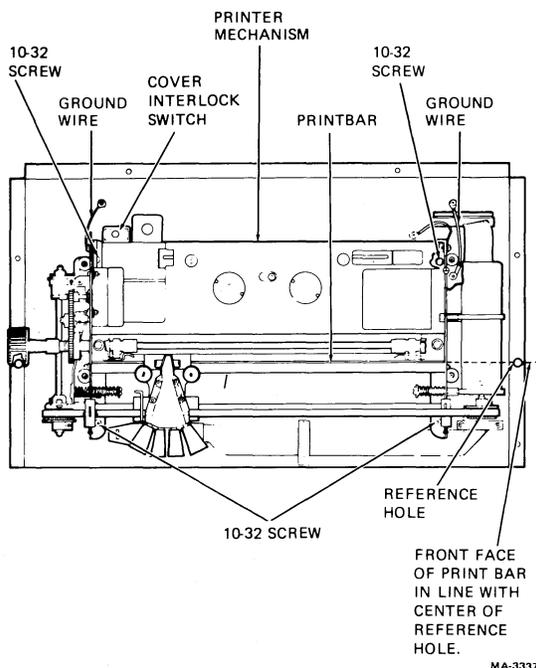

Fig. 11—Printer Mechanism Assembly Removal and Installation
- (f) Remove the two (8-32) screws, fastening the two ground wires to the cabinet base (Figure 11).
- (j) Remove the four (10-32) screws and washers that secure the printer mechanism to the cabinet base (Figure 11) using a 5/16 inch nut driver.
- (k) Carefully tilt the printer mechanism up toward the back of the teleprinter (Figure 11) and remove the two leads from the paper out switch (Figure 30).
- (f) Connect the ground wires from the printer mechanism to the base with 8-32 screws (Figure 11).